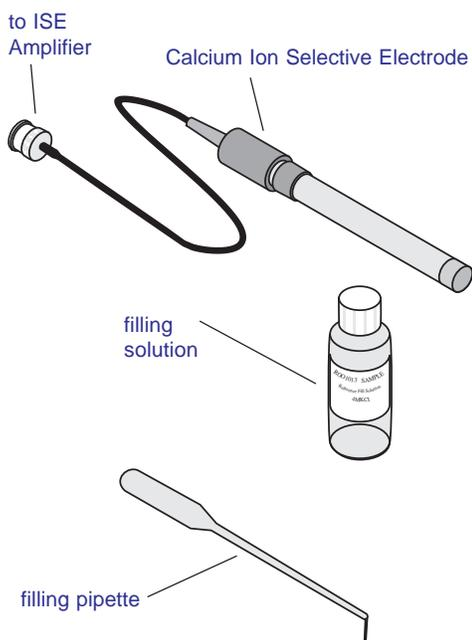

Figure 1
7. On semi-logarithmic graph paper, plot the mV reading (linear axis) against the concentration (log axis) as in Figure 1.